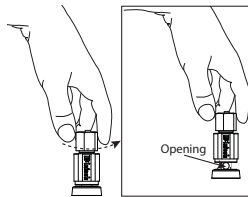

Figure 3– Opening Input Terminal
1. Rotate the end of the Input Terminal Post counterclockwise until an opening appears. Refer to *Figure 3*.
Terminal. Refer to *Figure 3* again.